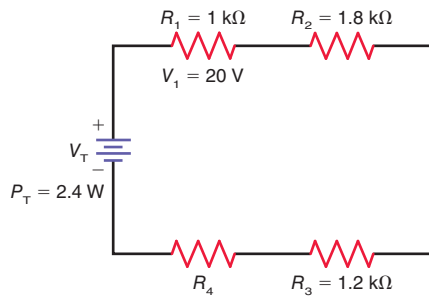

Figure 5-34
5.28 In Fig. 5-34, solve for I , R_T , V_T , V_2 , and P_1 .